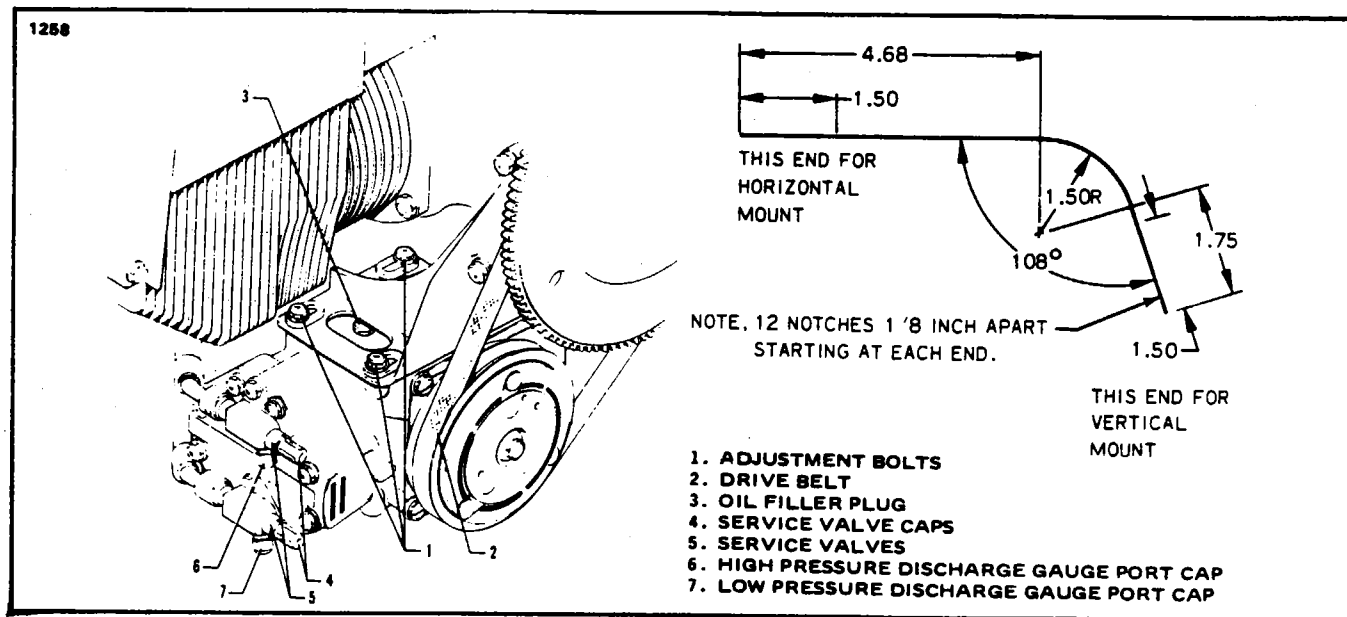

Figure 14-34. Compressor and Fabricated Oil Dipstick
14-75. COMPRESSOR OIL LEVEL CHECK. (Refer to Figure 14-34.) Anytime the air conditioning system is discharged, the oil level in the compressor should be checked. The following procedures should be utilized when checking the oil level of the compressor.
1. Fabricate a dipstick as shown in Figure 14-34.
1. Remove both the high and low pressure discharge port caps. (See Figure 14-34.)
- h. Connect the blue, low pressure, charging line to the low pressure gauge port. (See Figure 14-34.)